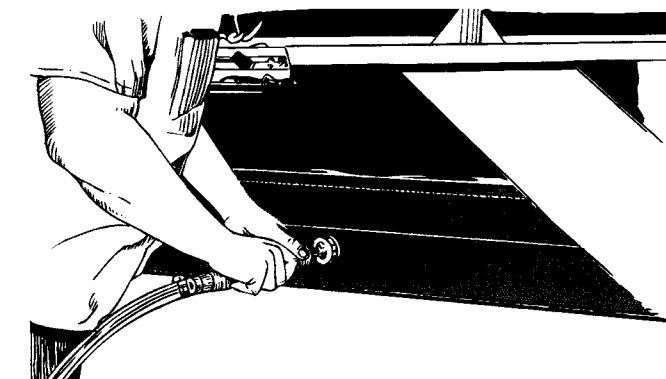

Fig. 11-9
16. Use a lightweight, low-speed buffer to buff the 45° cover skives (Fig. 11-9). Do not contact the fabric. Buffing the fabric not only reduces its strength but removes the chemical treatment from the fabric which reduces adhesions.